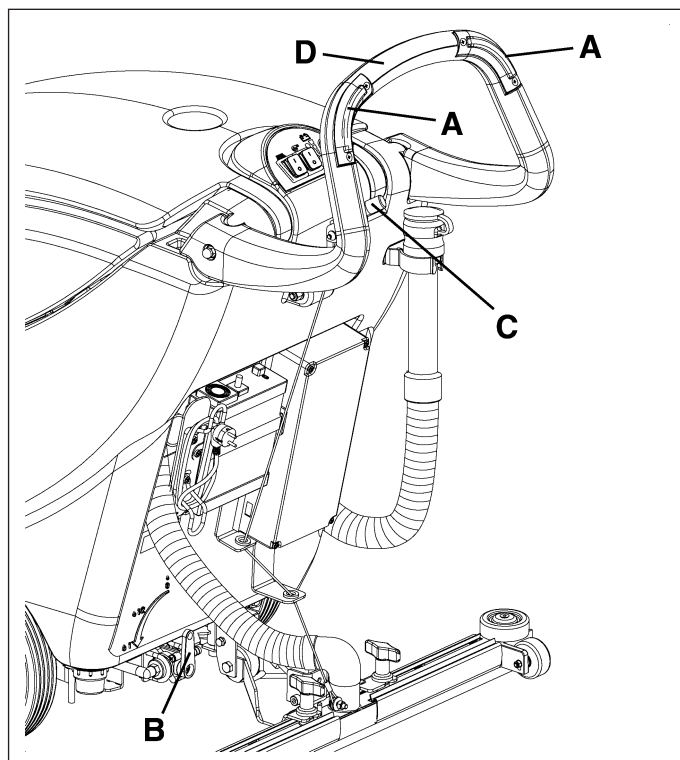

Figure 18
2. While keeping both hands on the handlebar (D, Fig. 18), move the machine and start scrubbing/drying the floor.
To avoid damaging the floor surface: Do not use the brush/pad without the solution. When the machine is stopped, stop the brush/pad by releasing the switches (A, Fig. 18).
Before lifting the brush/pad, stop its rotation by releasing the switches (A, Fig. 18).
3. If necessary, adjust the solution flow sent to the brush/pad by turning the lever (B, Fig. 18).
2. Lift the squeegee by pushing the lever (C, Fig. 18) upwards.